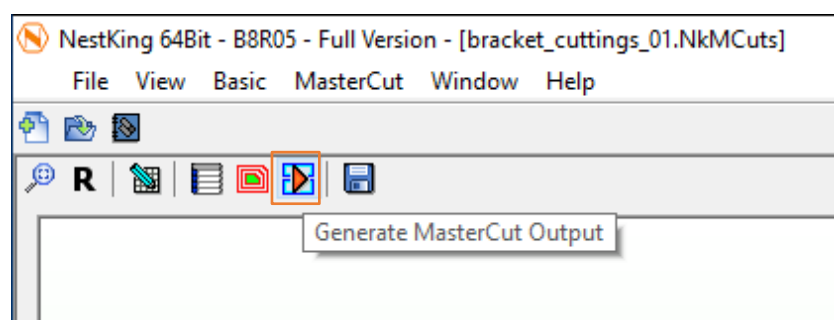

Figure 200
13. To see how PlyPacks are treaded in the MasterCut Output file click (Figure 200).